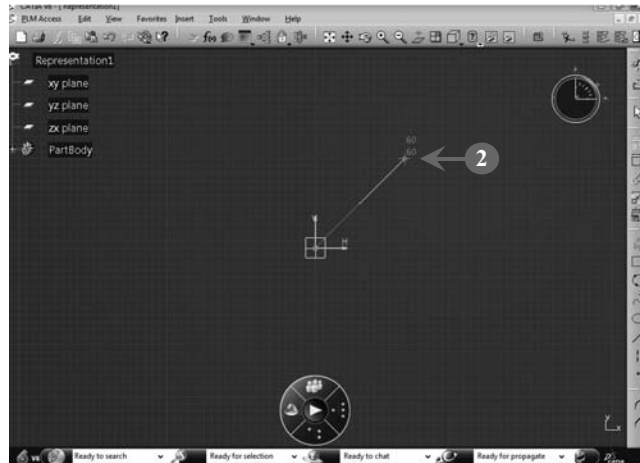

FIGURE 2.37
A point is displayed according to the movement of the mouse pointer, which is set at the point (30, 30) by clicking the mouse pointer at that position (**Figure 2.37**). This point in the Sketcher workbench serves as the starting point of the profile.
2. Click and drag the mouse pointer from the first point (30, 30) to another point (60, 60), as shown in Figure 2.37: